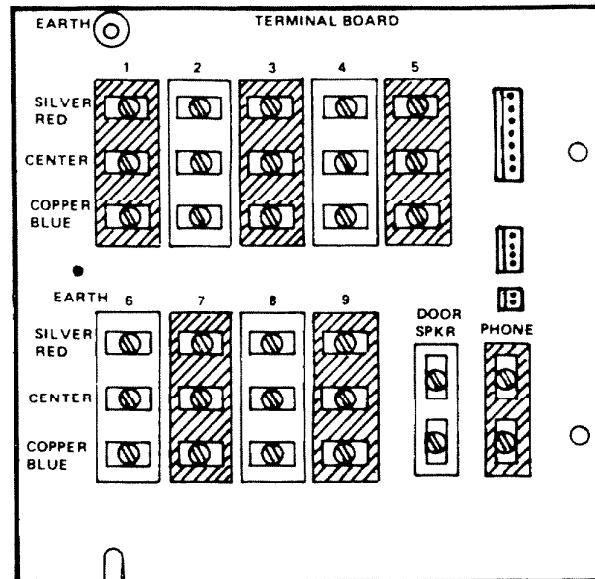

FIGURE 3
2. Connect the three-conductor wire (IWA-3) from each speaker to a set of terminal screws. See Figures 3 and 4. The IM-3103 Series Radio Intercom system will accommodate up to 13 speakers. If more than 9 speakers are connected, use only terminals 1, 2, 6, 7 for double wiring connections.